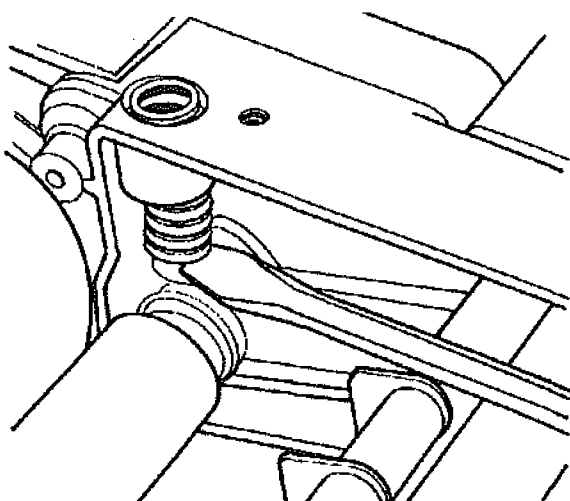

Fig. 80
3. Remove and inspect the roller springs. With a large screwdriver, back out the headless adjustment screws (31) that hold the roller springs (32) in place. Pry the bottom of the springs off the roller arms with the screwdriver, then remove the springs from the planer, as seen in Fig. 80. Inspect the springs carefully. If any of the coils are cracked or collapsed, replace the spring.